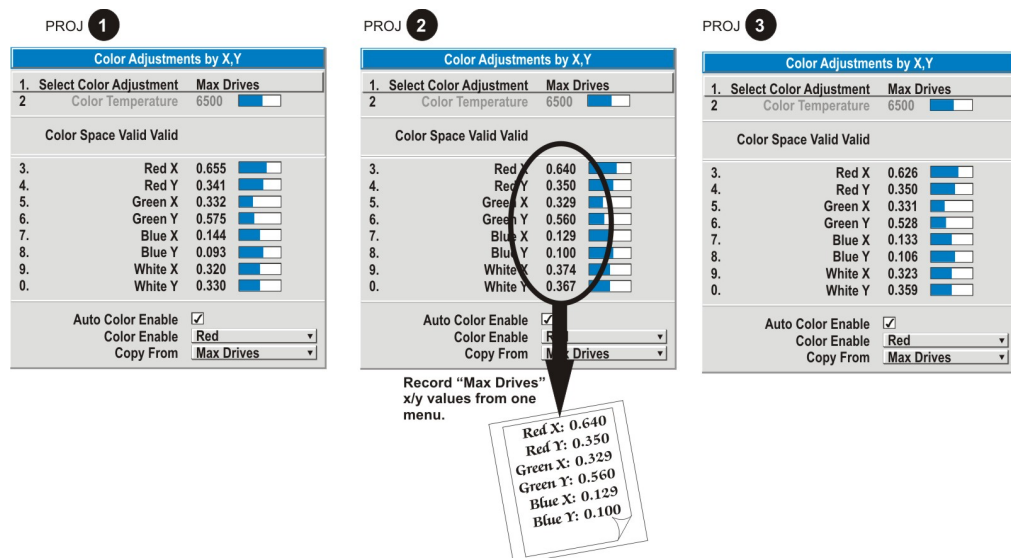

Figure 3.28. Jot Down a Set of “Max Drives” X/Y Values
4. Display the *Color Adjustments by X,Y* menus for all projectors. Each menu shows the x/y coordinates defining the “Max Drives” color gamut for the *Cine-IPM 2K* connected to this projector. Jot down the values shown in one (any) of the displays. See Figure 3.28. Or use the “Copy From” function to copy them into a “User” gamut in one *Cine-IPM 2K*.